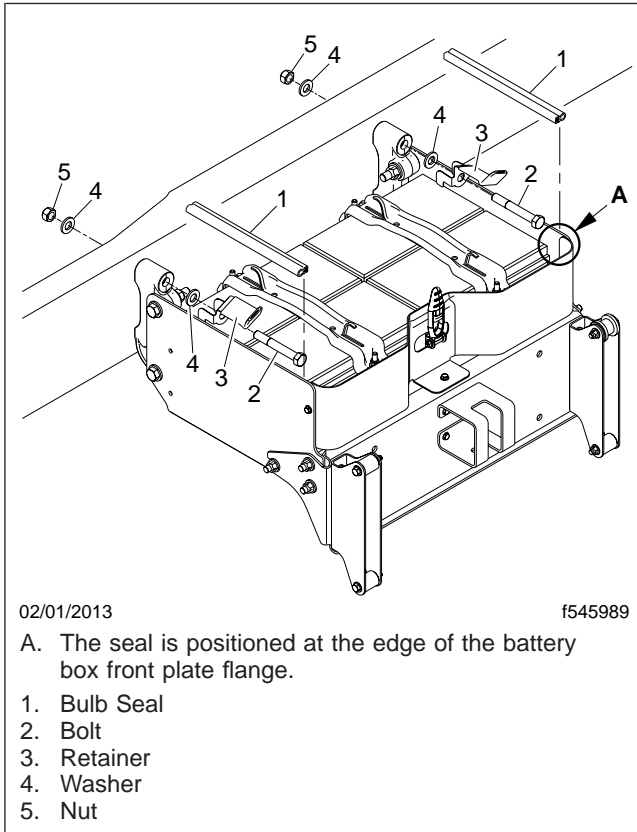

Fig. 1, Battery Box Retainer Installation
- 3.1 Position the seals at the edge of the battery box front plate flange, with the bulb-side of each seal oriented to the outside of the box. See Fig. 1 .